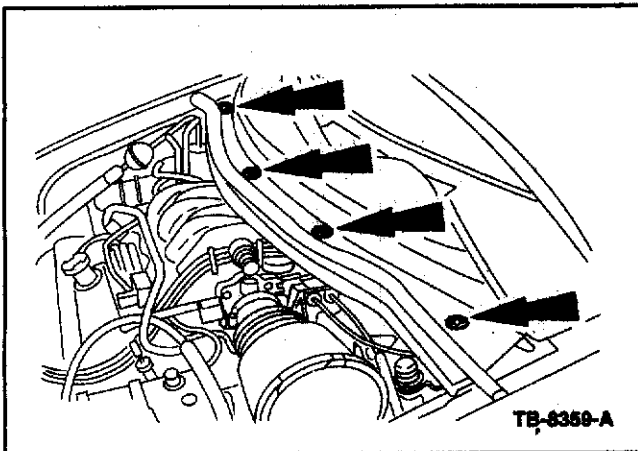

Figure 14 - Article 06-14-10
19. Install four (4) new pushpin screw/rivets to secure the upper cowl to the lower cowl. Add Clear Silicone Rubber to the four (4) pushpin screw/rivets to make a watertight seal around them. (Figure 14)